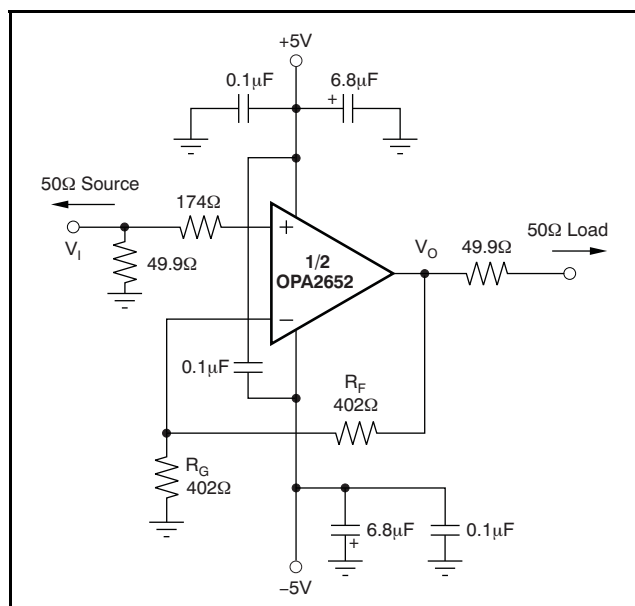
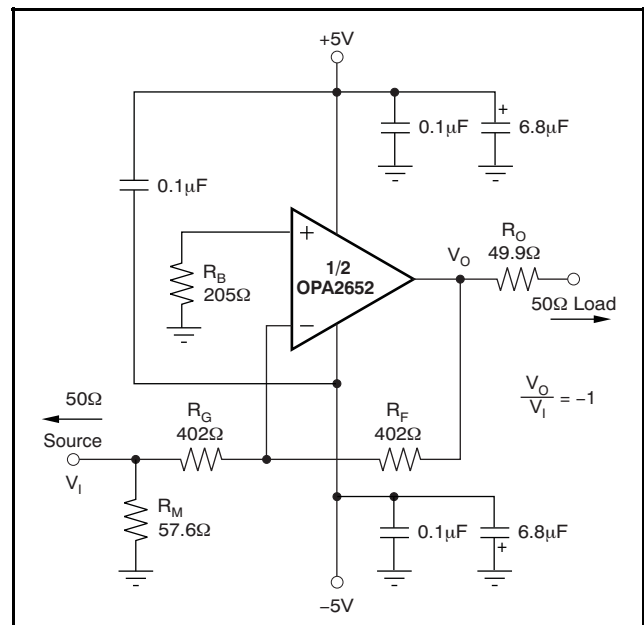

Figure 28. DC-Coupled, G = +2, Bipolar Supply, Specification and Test Circuit
Figure 29. DC-Coupled, G = -1, Bipolar Supply, Specification and Test Circuit
At $T_A = +25^\circ C$, $G = +2$, $R_F = 402\Omega$, and $R_L = 100\Omega$, unless otherwise noted. See Figure 28 and Figure 29 for AC performance only.
At $T_A = +25^\circ C$, $G = +2$, $R_F = 402\Omega$, and $R_L = 100\Omega$, unless otherwise noted. See Figure 28 and Figure 29.
Figure 28 shows the DC-coupled, gain of +2, dual power-supply circuit configuration used as the basis of the $\pm 5\text{V}$ specifications and typical characteristics. This configuration is for one channel. The other channel is connected similarly. For test purposes, the input impedance is set to 50Ω with a resistor to ground and the output impedance is set to 50Ω with a series output resistor.
Voltage swings reported in the specifications are taken directly at the input and output pins, while output powers (dBm) are at the matched 50Ω load. For the circuit of Figure 28, the total effective load will be $100\Omega \parallel 804\Omega$. Two optional components are included in Figure 28.
Figure 29 shows the DC-coupled, gain of -1 , bipolar supply circuit configuration that is the basis of the specifications and typical characteristics at $G = -1$. The input impedance matching resistor (57.6Ω) used for testing gives a 50Ω input load. A resistor (205Ω) connects the noninverting input to ground. This configuration provides the DC source resistance matching to cancel outputs errors arising from input bias current.
A good rule of thumb is to target the parallel combination of R_F and R_G (see Figure 28) to be less than approximately 300Ω. The combined impedance $R_F \parallel R_G$ interacts with the inverting input capacitance, placing an additional pole in the feedback network, and thus a zero in the forward response. Assuming a 2pF total parasitic on the inverting node, holding $R_F \parallel R_G < 300\Omega$ keeps this pole above 250MHz. By itself, this constraint implies that the feedback resistor R_F can increase to several kΩ at high gains. This increase is acceptable as long as the pole formed by R_F and any parasitic capacitance appearing in parallel is kept out of the frequency range of interest.
Voltage feedback op amps exhibit decreasing closed-loop bandwidth as the signal gain is increased. In theory, this relationship is described by the Gain Bandwidth Product (GBP) shown in the specifications. Ideally, dividing GBP by the noninverting signal gain (also called the Noise Gain, or NG) predicts the closed-loop bandwidth. In practice, this prediction only holds true when the phase margin approaches 90°, as it does in high gain configurations. At low gains (increased feedback factor), most amplifiers exhibit a wider bandwidth and lower phase margin. The OPA2652 is compensated to give a flat response in a noninverting gain of 1 (see Figure 28). This configuration results in a typical gain of +1 bandwidth of 700MHz, far exceeding that predicted by dividing the 200MHz GBP by $NG = 1$. Increasing the gain
Because the OPA2652 is a general-purpose, wideband voltage feedback op amp, all of the familiar op amp application circuits are available to the designer. Inverting operation is one of the more common requirements and offers several performance benefits. Figure 29 shows a typical inverting configuration.
In the inverting configuration, three key design considerations must be noted. First, the gain resistor (R_G) becomes part of the signal channel input impedance. If input impedance matching is desired (which is beneficial whenever the signal is coupled through a cable, twisted pair, long PCB trace or other transmission line conductor), R_G may be set equal to the required termination value and R_F adjusted to give the desired gain. This approach is the simplest, and results in optimum bandwidth and noise performance. However, at low inverting gains, the resulting feedback resistor value can present a significant load to the amplifier output. For an inverting gain of -1 , setting R_G to 50Ω for input matching eliminates the need for R_M but requires a 50Ω feedback resistor. This configuration has the interesting advantage that the noise gain becomes equal to 2 for a 50Ω source impedance—the same as the noninverting circuits considered above. However, the amplifier output now sees the 50Ω feedback resistor in parallel with the external load. In general, the feedback resistor should be limited to the 200Ω to 1.5kΩ range. In this case, it is preferable to increase both the R_F and R_G values as shown in Figure 29, and then achieve the input matching impedance with a third resistor (R_M) to ground. The total input impedance becomes the parallel combination of R_G and R_M .
The second major consideration, touched on in the previous paragraph, is that the signal source impedance becomes part of the noise gain equation and influences the bandwidth. For the example in Figure 29, the R_M value combines in parallel with the external 50Ω source impedance, yielding an effective driving impedance of $50\Omega \parallel 57.6\Omega = 26.8\Omega$. This impedance is added in series with R_G for calculating the noise gain (NG). The resulting NG is 1.94 for Figure 29 (an ideal source would cause $NG = 2.00$).
error, as a result of the input bias currents, is reduced to (Input Offset Current) • R_F . If the 50 Ω source impedance is DC-coupled in Figure 29, the total resistance to ground on the inverting input will be 429 Ω . Combining this in parallel with the feedback resistor gives 208 Ω , which is close to the $R_B = 205\Omega$ used in Figure 29. To reduce the additional high-frequency noise introduced by this resistor, it is sometimes bypassed with a capacitor. As long as $R_B < 300\Omega$, the capacitor is not required since its total noise contribution is much less than that of the op amp input noise voltage.
The OPA2652 provides good distortion performance into a 100 Ω load on $\pm 5V$ supplies. Increasing the load impedance improves distortion directly. Remember that the total load includes the feedback network; in the noninverting configuration (Figure 28), this is sum of $R_F + R_G$, while in the inverting configuration, it is only R_F . Also, providing an additional supply decoupling capacitor (0.1 μF) between the supply pins (for bipolar operation) improves the 2nd-order distortion slightly (3dB to 6dB).
Evaluating these two equations for the OPA2652 circuit and component values shown in Figure 28 gives a total output spot noise voltage of $17\text{nV}/\sqrt{\text{Hz}}$ and a total equivalent input spot noise voltage of $8.4\text{nV}/\sqrt{\text{Hz}}$. This noise includes the noise added by the bias current cancellation resistor (205Ω) on the noninverting input. This total input-referred spot noise voltage is only slightly higher than the $8\text{nV}/\sqrt{\text{Hz}}$ specification for the op amp voltage noise alone. This result will be the case as long as the impedances appearing at each op amp input are limited to the previously recommend maximum value of 300Ω . Keeping both $(R_F \parallel R_G)$ and the noninverting input source impedance less than 300Ω satisfies both noise and frequency response flatness considerations. Since the resistor-induced noise is relatively negligible, additional capacitive decoupling across the bias current cancellation resistor (R_B) for the inverting op amp configuration of Figure 29 is not required.
The balanced input stage of a wideband voltage feedback op amp allows good output DC accuracy in a wide variety of applications. Although the high-speed input stage does require relatively high input bias current (typically $4\mu\text{A}$ out of each input terminal), the close matching between them may be used to significantly reduce the output DC error caused by this current. This reduction is done by matching the DC source resistances appearing at the two inputs. This matching reduces the output DC error resulting from the input bias currents to the offset current times the feedback resistor. Evaluating the configuration of Figure 28, using worst-case $+25^\circ\text{C}$ input offset voltage and current specifications, gives a worst-case output offset voltage equal to:
As an example, compute the maximum T_J using an OPA2652E (SOT23-8 package) in the circuit of Figure 28 operating at the maximum specified ambient temperature of +85°C and with both outputs driving 2.5V_{DC} into a grounded 100Ω load.